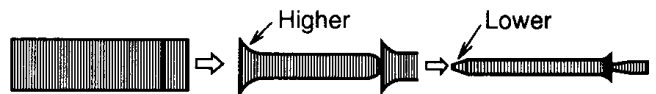

Fig. 2-4-3
- (6) Reduce the FM waveform while pressing the channel buttons (▲, ▼) during playback. If a drop in level is found on the left side as shown in Fig.2-4-3, turn the guide roller of the pole base assembly (supply side) with the roller driver to make the FM waveform linear. If a drop in level is on the right side, likewise turn the guide roller of the pole base assembly (take-up side) with the guide roller to make it linear. (Fig.2-4-3)
- (7) Then playtape (EP) and make sure that the FM waveform varies in parallel and linearly with the tracking operation. When required, perform fine-adjustment of the guide roller of the pole base assembly (supply or take-up side).
- (8) After adjustment, tighten the set screw under the pole base assembly. (Take care not to tighten too much)
- (9) After tightening the set screw, play the alignment tape (SP) and tape (EP) again to make sure that the FM waveform has correct variation.